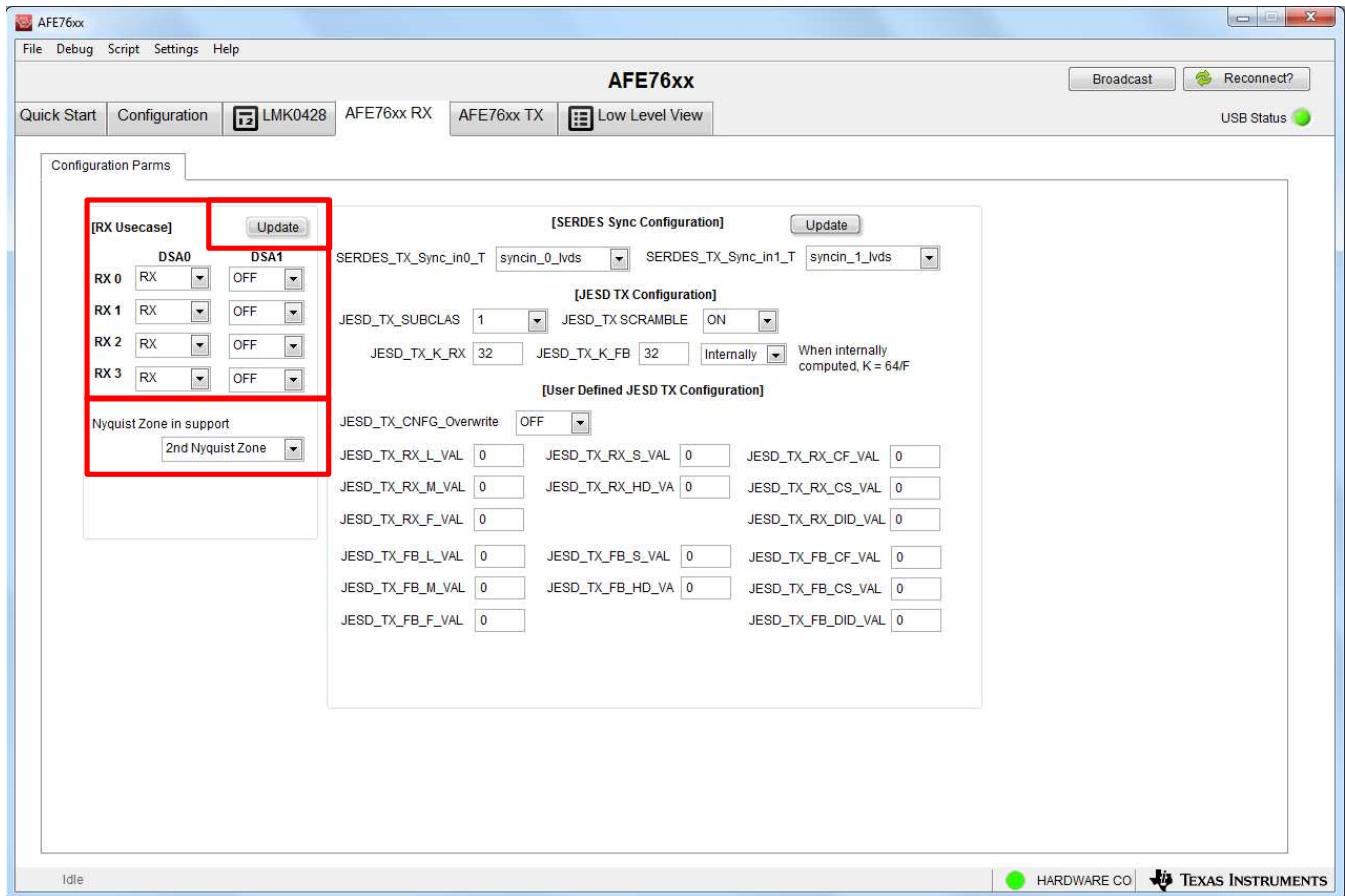

Figure 9. AFE76xx GUI RX Setup
8. Go to the AFE76xx RX Tab (see Figure 9).